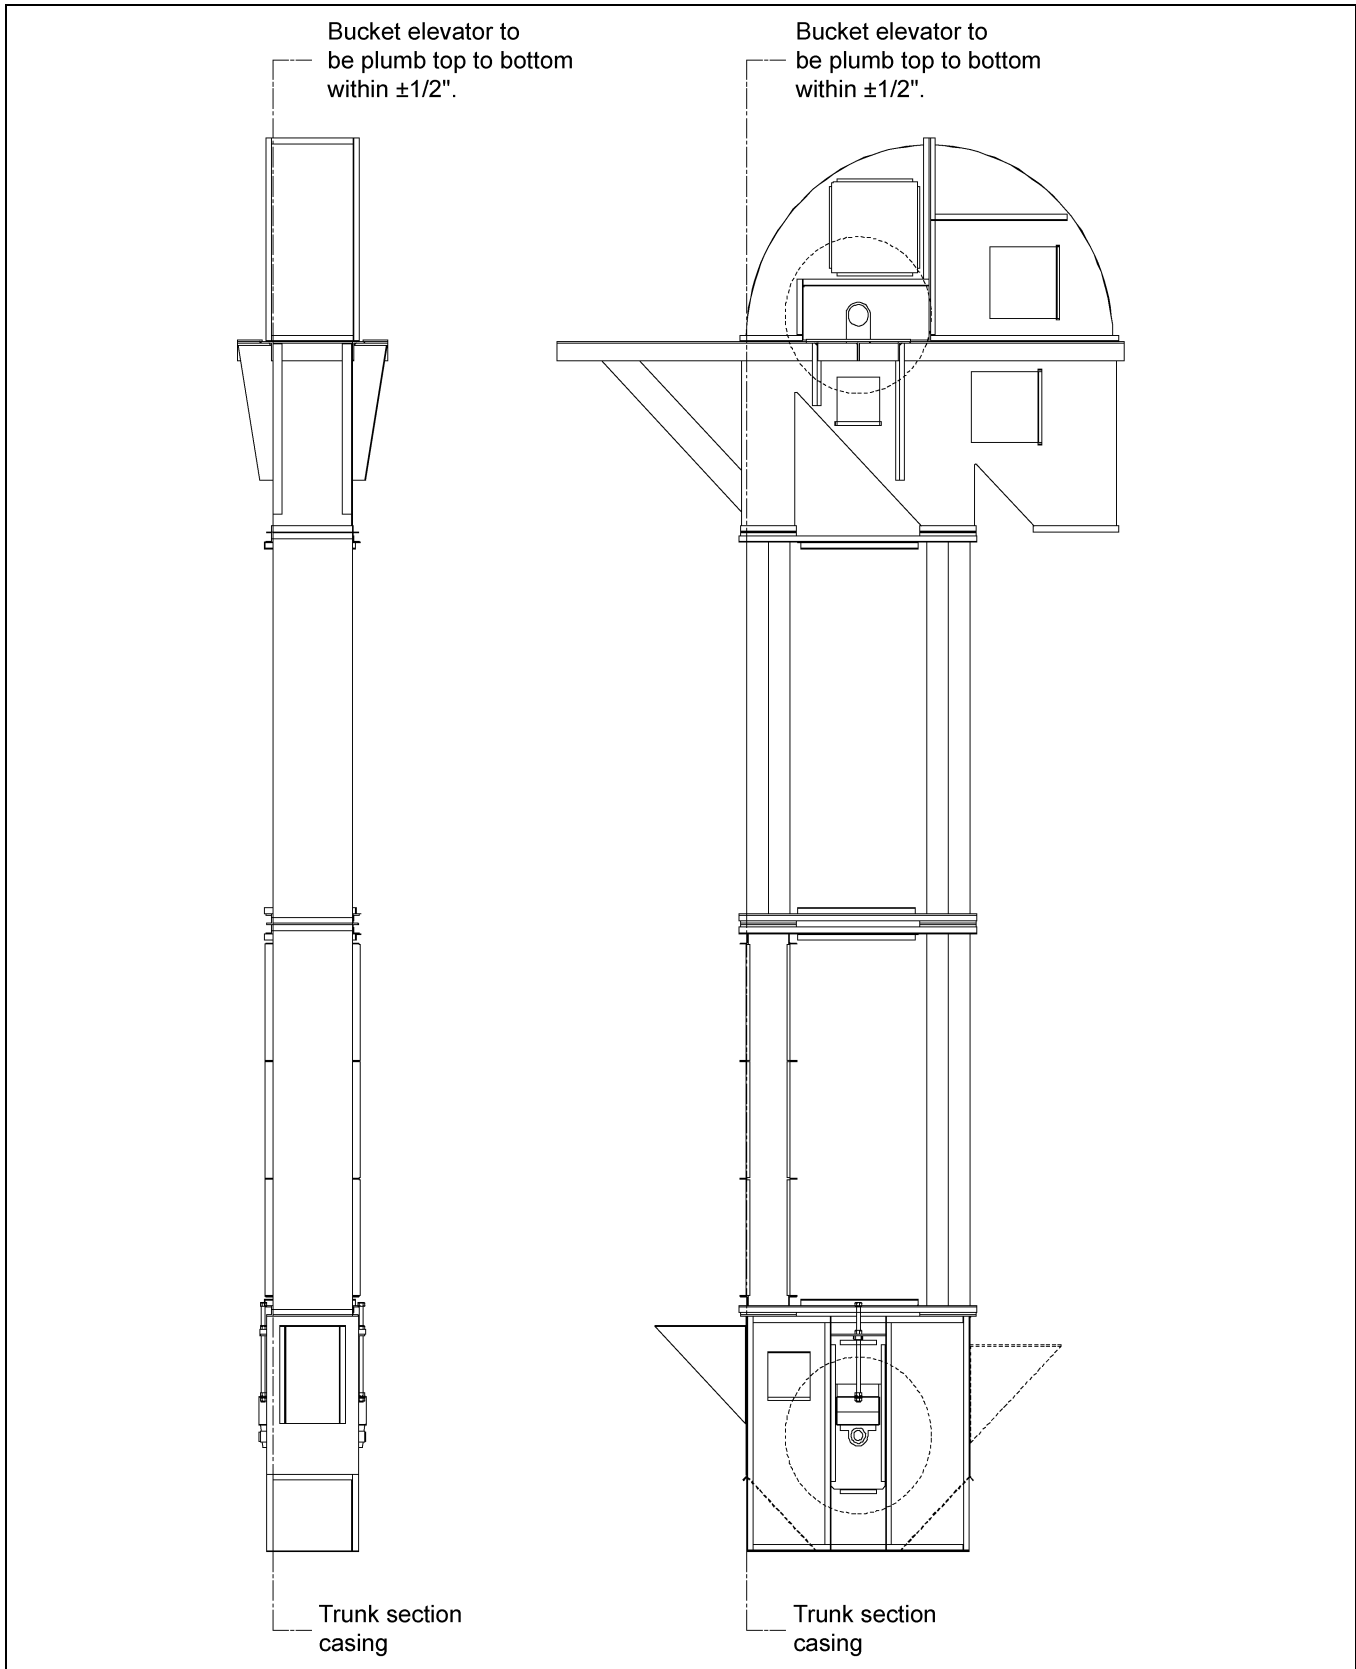

Figure 9A Plumbing Tolerance
To ensure proper bucket elevator plumbness, set up two (2) transits, one in each direction. Refer to Figure 9A for proper tolerance in elevator erection.